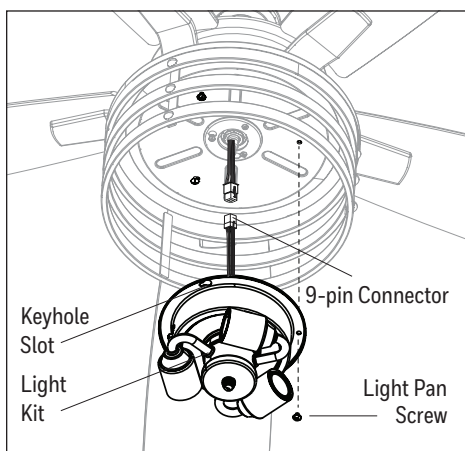

Figure 5.7
7. Remove one of the three light pan screws from the light pan and loosen the other two but do not remove. Connect the 9-pin connector from the light pan to the 9-pin connector from the light kit. Lift the two keyhole slots in the light kit over the two loosened light pan screws and turn in a clockwise direction. Then, use the previously removed light pan screw to secure the light kit to the light pan. Tighten all screws (Figure 5.7).